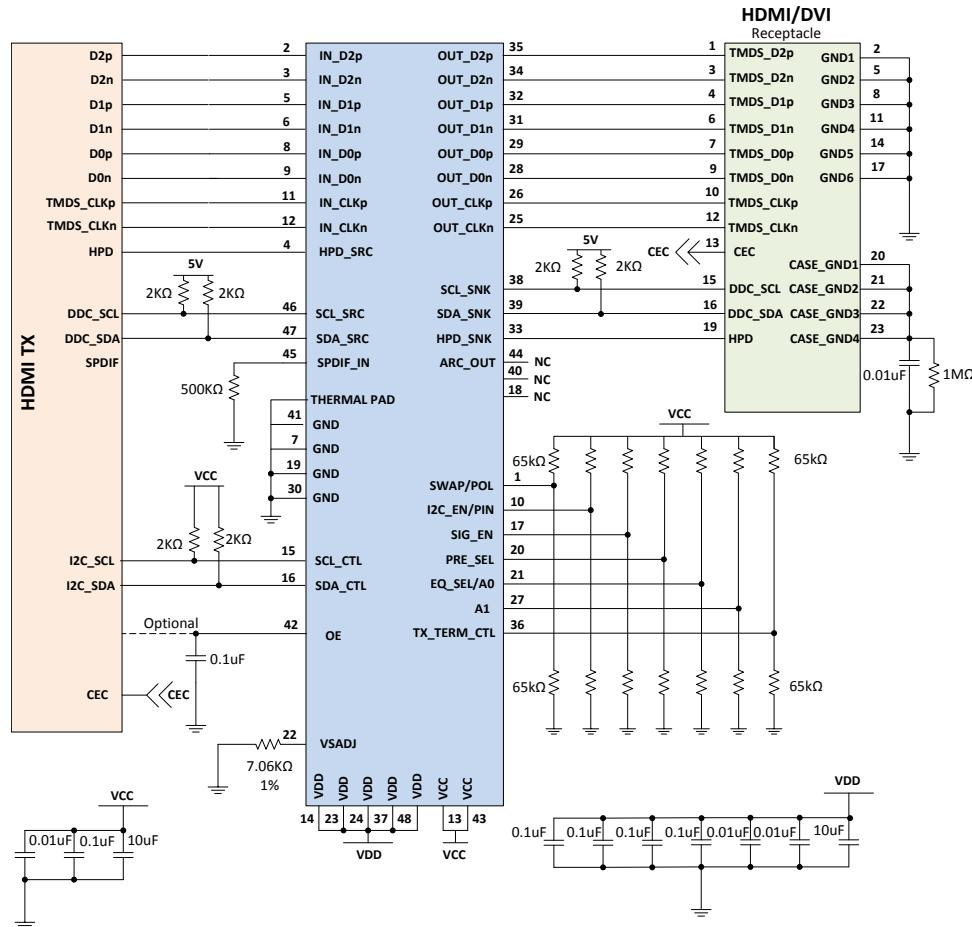

Figure 32. TMDS181 in Source Side Application
- Use the typical application Figure 32 for information on control pin resistors.
- See schematics in Figure 32 on recommended decoupling capacitors from V_{CC} pins to ground.